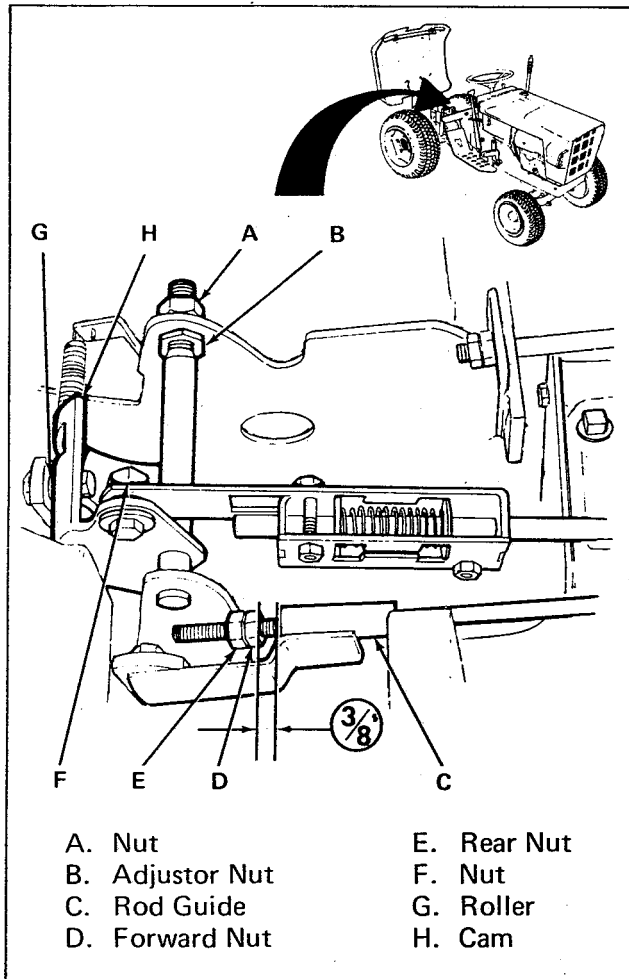

Figure 19. Clutch Free Travel and Transmission Neutral Adjustments
up and back and measure the gap between the nut (item D, figure 19) and the rod guide (item C). If this gap is not  $\frac{3}{8}$  inch, adjust the clutch free travel as follows:
3. Check roller (item G, figure 19). The roller should be centered on the neutral mark of the cam (item H). If it is, proceed directly to step 7. If it is not centered, continue to step 4.
10. Loosen nut (item A, figure 19).